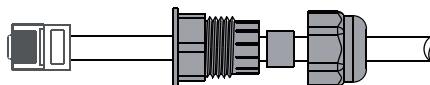

Figure 4.8-3 Remotely close the cable connection
**Step 3-2** For Remote Shutdown. Run the cable through the steel plate , Then wire from pins 5 and 6. Table 4.5-1 describes the 6-pin port definition, Wiring is shown in Figure 4.8-3